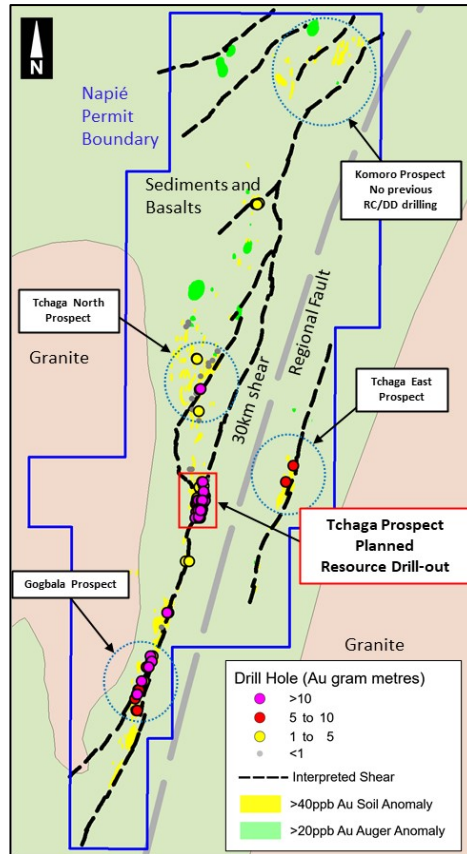

Figure 1: Napié Project with Tchaga Prospect in red rectangle
Mako Gold Limited (“Mako” or “the Company”; ASX:MKG) is pleased to advise that it has received the next batch of assay results from the ongoing 10,000 metre reverse circulation (RC) and diamond drilling (DD) program on the Tchaga Prospect at the Company’s 224km² Napié Project in Côte d’Ivoire. The Tchaga Prospect is associated with a +40ppb gold soil anomaly coincident with a +30km-long shear zone, thought to be a major control for gold mineralisation (Figure 1).